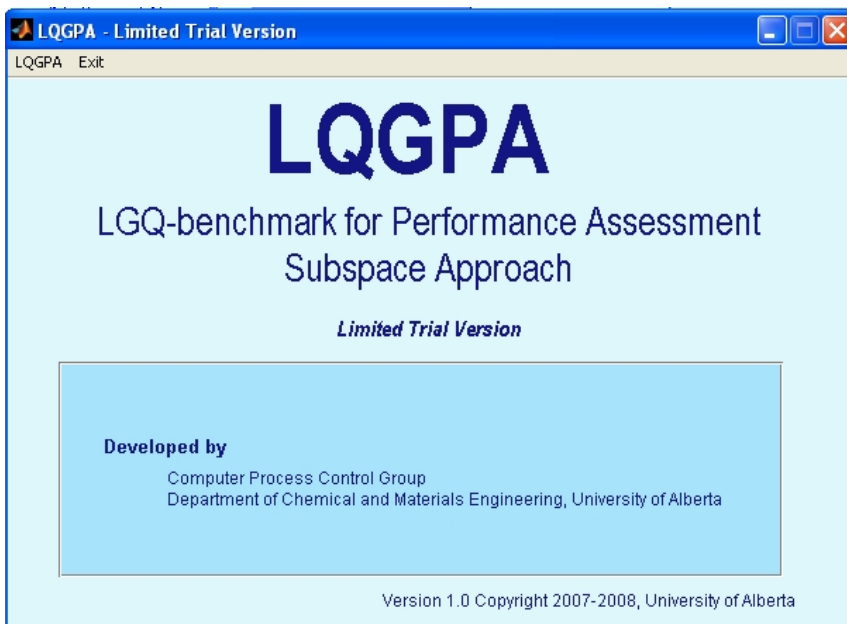

Figure 1: The First GUI that appears
| Figure 1: The First GUI that appears .....                               | 1  |
- 3) At the command prompt, type “>>**main\_LQGPA**” to start the toolbox. The GUI shown in Figure 1 should appear.